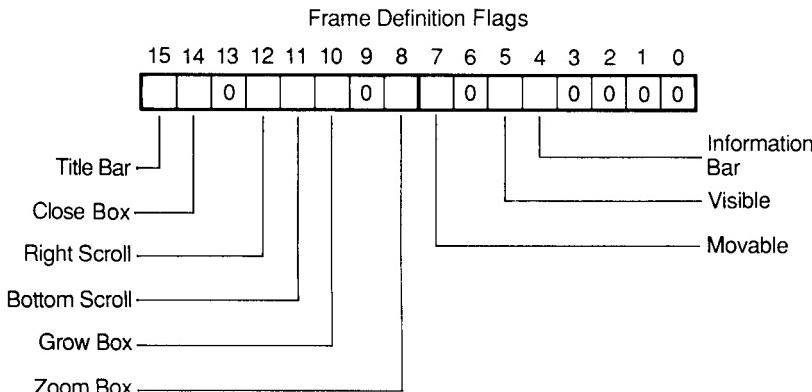

Figure 9-5
The *wFrame* parameter is a word-size bit pattern that is arranged as shown in Figure 9-5. Here, Title Bar, Close Box, Right Scroll Bar, and so on, are switches by which you specify the controls the window should have; a 1 means the window has that control, a 0 means it does not. A 1 in the “Movable” bit specifies that the window may be dragged by its title bar. The “Visible” bit stipulates whether the window should be visible (1) or invisible (0). Generally, you should make it invisible to start. Then, after you have drawn its contents, do a ShowWindow call to make it visible.